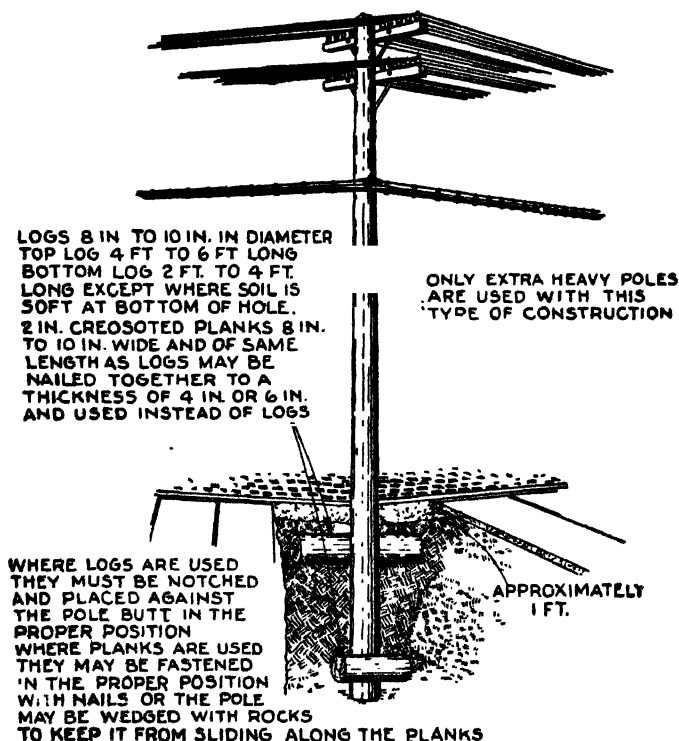

FIG. 5,865.—Method of ground bracing at corners where guy wires are not permitted.
FIGS. 5,861 AND 5,862.—Treatment of guyed poles at corner. When placing guys, pull over tops of all poles so that when the load is put on and the anchors and guys have settled, the pole tops will have come back into line. Under average conditions pole tops should be pulled over an amount approximately equal to the diameter of the pole top. When conditions are such that more or less yield is expected from anchor and guy, this amount may be modified accordingly.
FIGS. 5,863 AND 5,864.—Pole brace. Place brace as high up on pole as practicable, but not above second cross-arm. Brace hole must be dug to reach solid footing. Depth should be at least 2 ft. except in rock. Two creosoted anchor planks or approved equivalent not less than 2x12x24 ins. Size of planks may vary with the condition of the soil, but must not be less than dimensions given.
snatch block for the bull rope. Where obstructions do not prevent raising pole with butt at hole proceed as in fig. 5,859.
**Fifth Method.**—*Setting with water jet.* Where digging hole to full depth by shovel is impracticable because of caving soil or sub-surface water, the method shown in fig. 5,860 should be used.
**Rake.**—Where practicable corner and dead end guyed poles should be raked by "setting in" the butts by an amount not exceeding 1 foot for every 20 feet of pole length. Conditions in towns and cities may require that all poles be set vertically. See figs. 5,861 and 5,862.